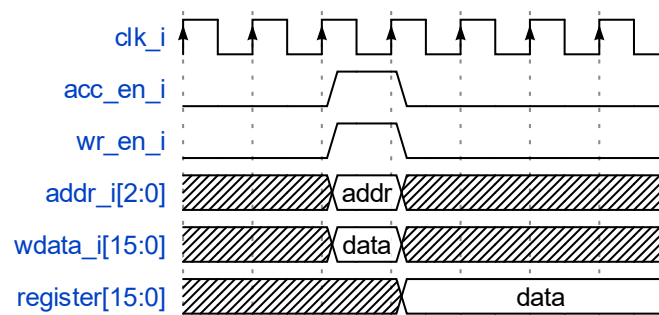
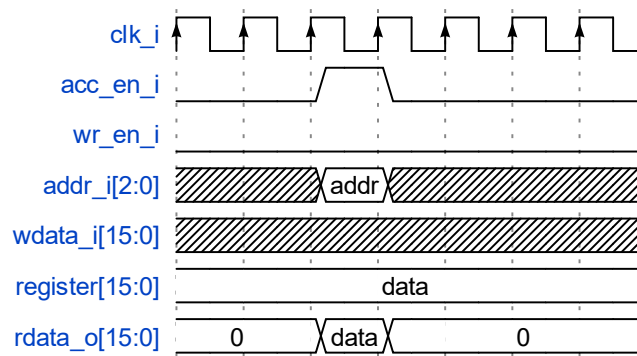

Figure 2 Write access – register is identified using addr
Figure 3 Read access – register is identified using addr
The communication interface is used to transfer data to and from the configuration and status registers. A certain register is identified using an address. Those registers can be read only (R), write only (W), or read and write (R/W). The timing for write and read commands is shown in Figure 2 and Figure 3.